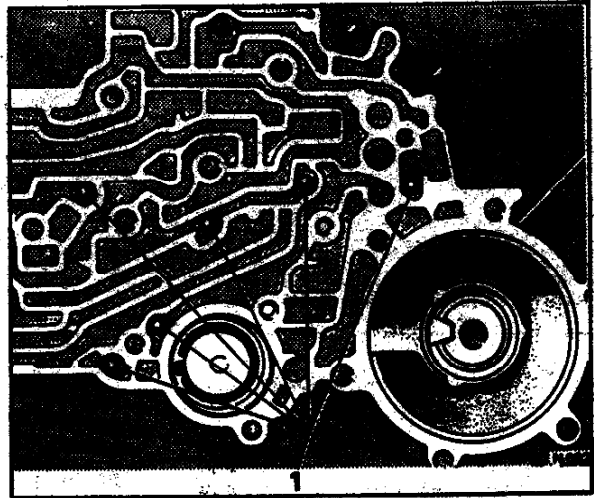

Fig. T74 Location of check balls - transmission case
7. Remove the six check balls from the cored passages in the transmission case (see Fig. T74).